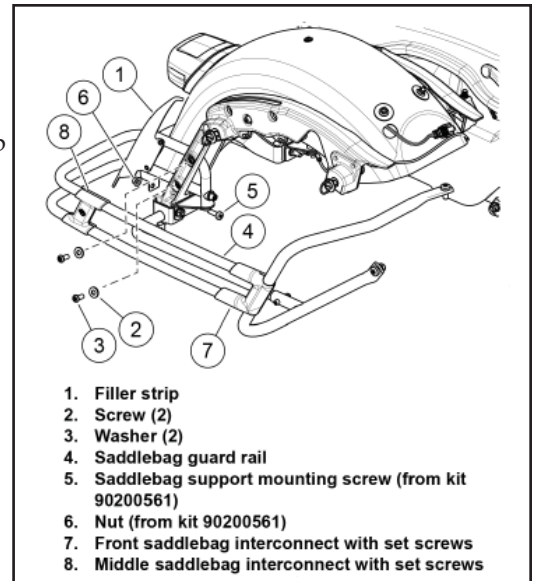

Figure 2.
2. See Figure 2. Remove bottom saddlebag support mounting screw (5) and nut (6). Discard hardware.
3. Remove the front interconnect (7) and middle interconnect (8) from the rails. Keep the rails roughly parallel to one another.
7. Secure the filler strip with screws (2) and washers (3). Tighten screws finger tight.
8. See the saddlebag rail kit instruction sheet. Follow all remaining Saddlebag Guard Rail Kit installation instructions, including using the kit hardware that replaces fastener (5) and nut (6). Do not tighten filler strip mounting hardware.